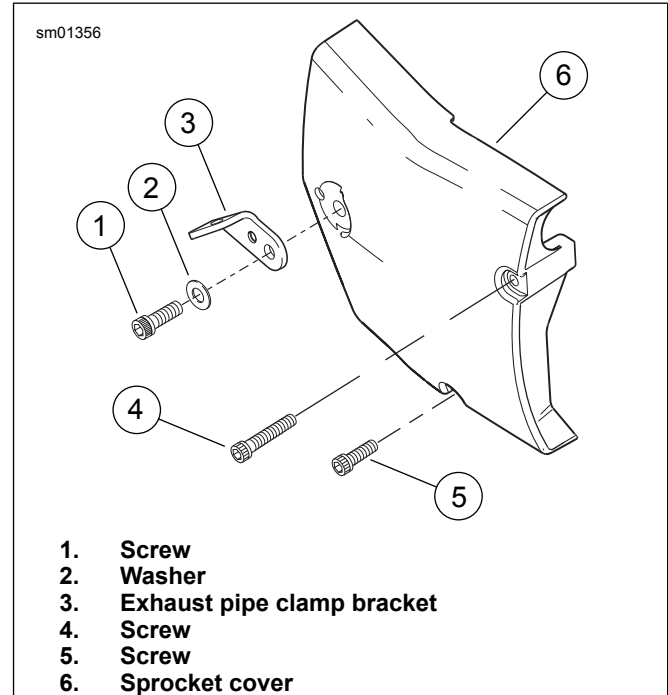

Figure 1. Sprocket Cover
2. See Figure 1. Remove the rear head pipe mounting clamp and fasteners. Save the clamp and fasteners for later use.
- a. Remove screw (1), washer (2), and exhaust pipe clamp bracket (3).
- b. Remove screws (4 and 5) and original equipment (OE) sprocket cover (6).